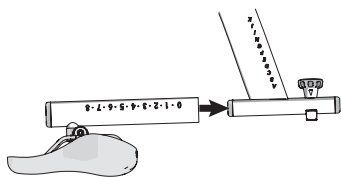

Figure 6
1. Take the seat post out and turn it upside down. Slide the seat assembly onto the seat post (Figure 6)